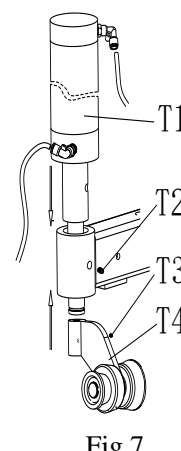

Fig 7
5. Fixing the cylinder T1 on the swing arm with 2 bolts T2; Fixing the tire pressing roller on the piston rod and tighten with the hex screws T3, then make sure that the tire pressing roller can rotate freely; connecting the air hose. Shown as Fig7.